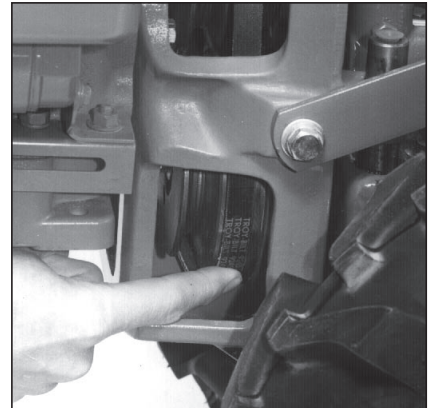

Figure 4-13: High range to low range. Shows moving belt from lower-front onto lower-rear groove.
6. Go to the right side of the tiller and finish seating the belt (Figure 4-13).